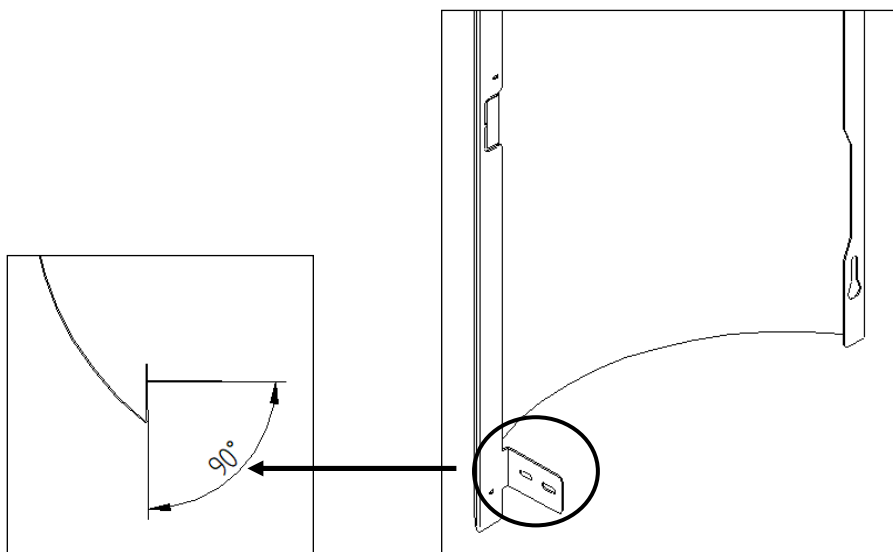

Figure 75 – Tab angle
d) Then to engage the side covers, you must first fold the tab as shown in Figure 75 to ensure that it is at an angle of less than 90°.